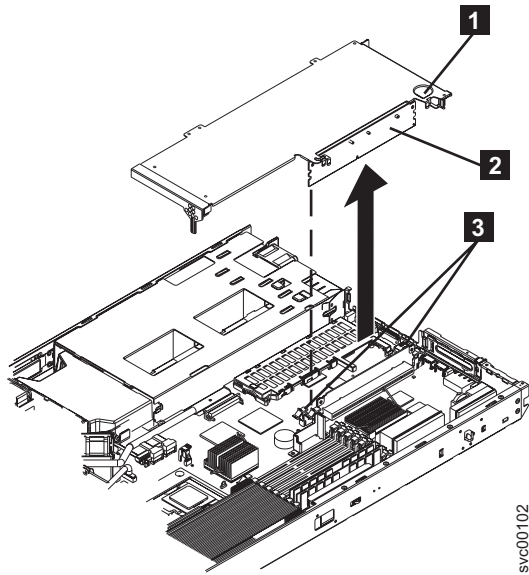

Figure 178. SAN Volume Controller 2145-8F2 or SAN Volume Controller 2145-8F4 slot 2 adapter
- a. Open the retaining clips on both sides of the slot 2 riser card (**2** in Figure 178 on page 193) by pushing the clips down and away from the riser card until the clips are no longer attached to the riser card.